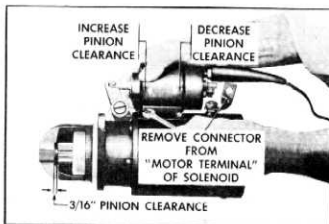

Fig. 39—Adjustment of Solenoid for Pinion Clearance
pinion and starter housing (fig. 39) with a piece of $\frac{3}{16}$ " stock.
6. Adjust this clearance by loosening the solenoid to starter housing attaching bolts and moving the solenoid backward or forward on the starter housing. When the proper adjustment is obtained, tighten solenoid attaching bolts (fig. 39).